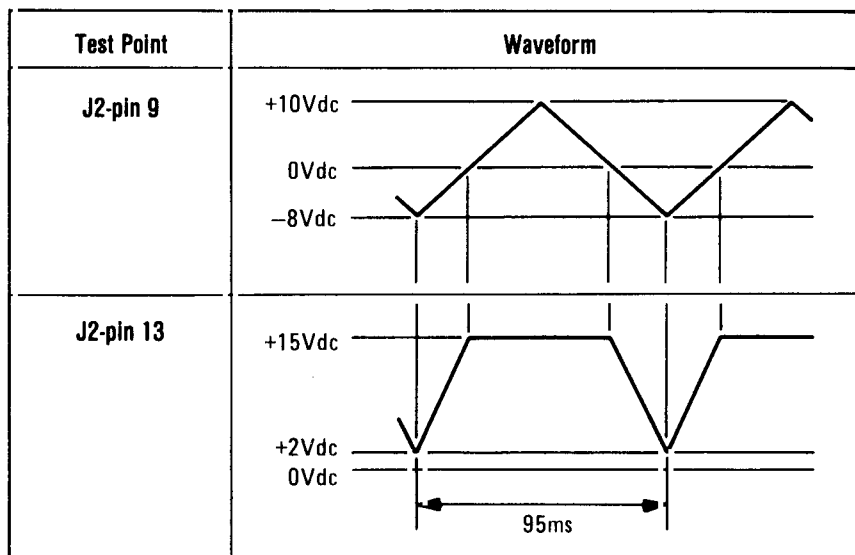

Figure 1. Waveforms with HF Loop Unlocked
3. Remove the tune voltage to the A5 Assembly. The loop is unlocked. The waveforms shown in Figure 1 should occur on the stated connector and pin.